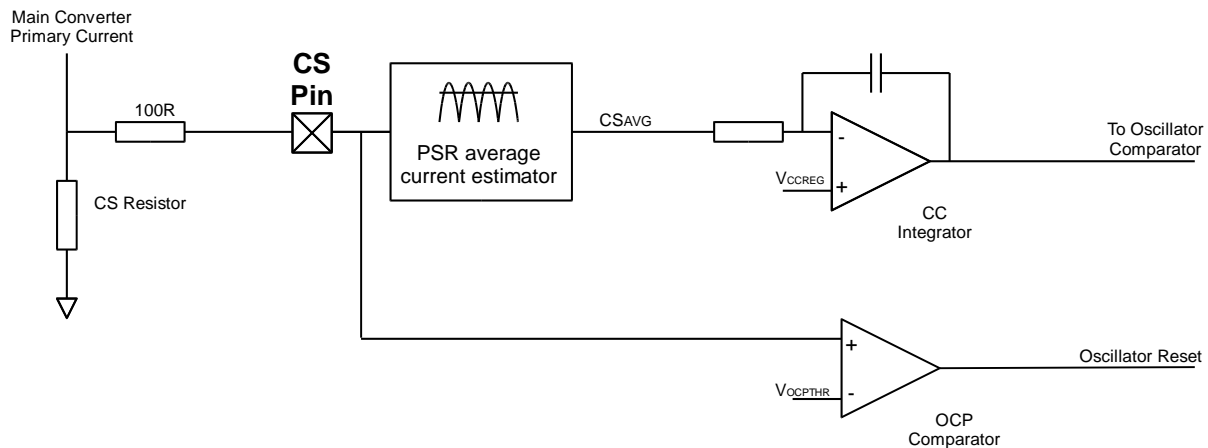

Figure 7: RED2402 Current protection and control circuits
Figure 7 shows the two current control methods used in the converter:
Shown in figure 7 the signal from the CS pin is divided into two different paths. The bottom path provides peak instantaneous over-current protection (OCP) while the PSR Average Current estimation block provides the current regulation (CC) information. The voltage on the CS pin is an AC signal biased around GND. Inside the PSR block this signal is processed to provide a voltage proportional to the average converter output current.
The CC regulation circuit is shown in Figure 7. CC operation is defined by an internally compensated control loop. This provides a system response time of approximately 300us in a typical application. The average current regulation point,  $V_{CCREG}$  is pre-set to 150mV, referred to the CS pin.